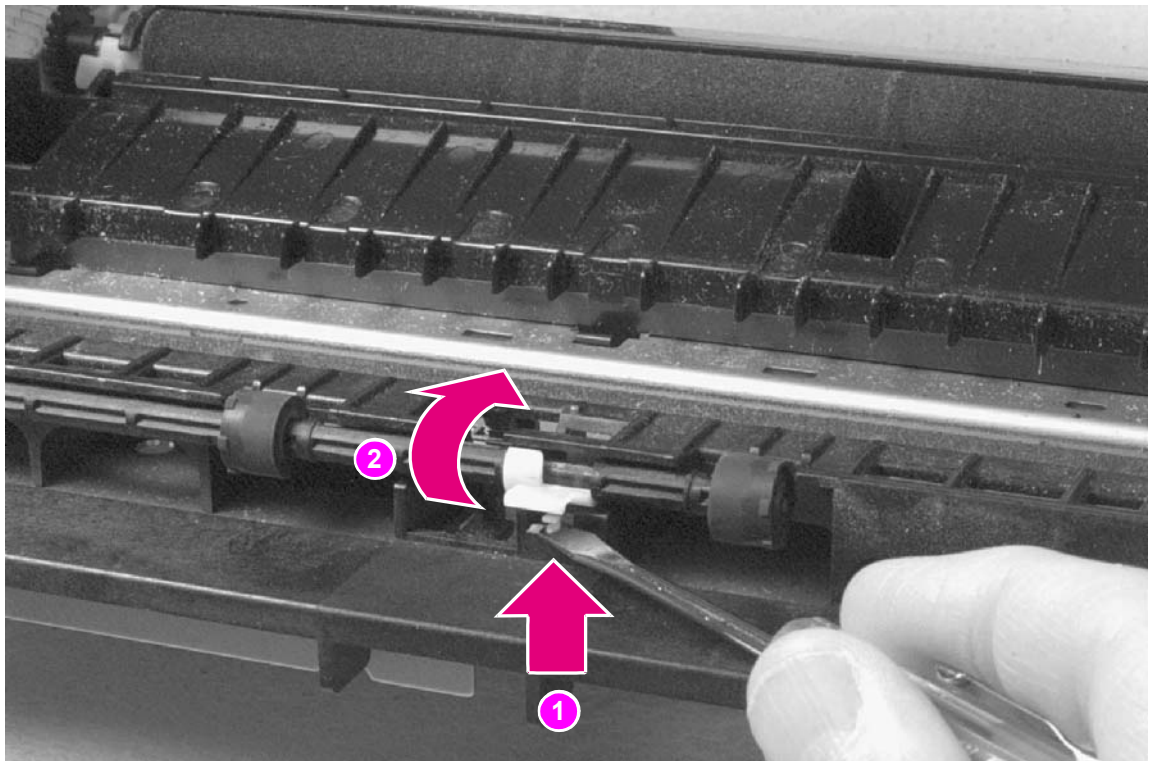

Figure 6-18 Fuser Exit Roller removal
- 3 Remove the Exit Roller Assembly by pressing the small, white tab upward (Figure 6-18, callout 1) and rotating it around (Figure 6-18, callout 2).
While the shape of the white tab was changed for the HP LaserJet 6L, these procedures for Fuser Exit Roller Assembly removal remain unchanged. Figure 6-18 shows the white tab from an HP LaserJet 5L.